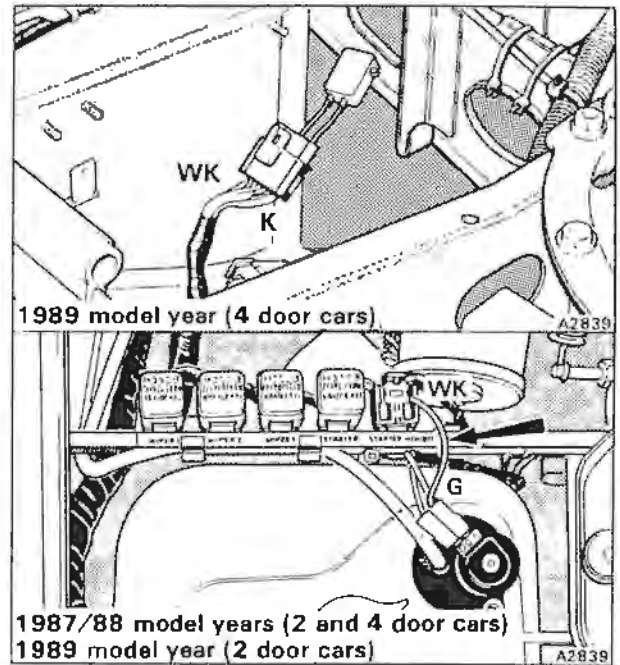

Fig. B2-42 Applying control pressure to the system
4. Bridge the 3.0 pink cable and the 3.0 white/pink cable at the socket (see fig. B2-42).
1. Withdraw the starter inhibit relay (see fig. B2-42).